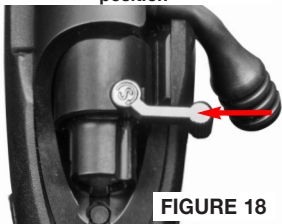

FIGURE 18
- The middle position - “S” - SAFE LOAD/UNLOAD (FIGURE 18) The rifle is in SAFE mode - but the bolt can be manipulated to load and unload the rifle’s chamber.